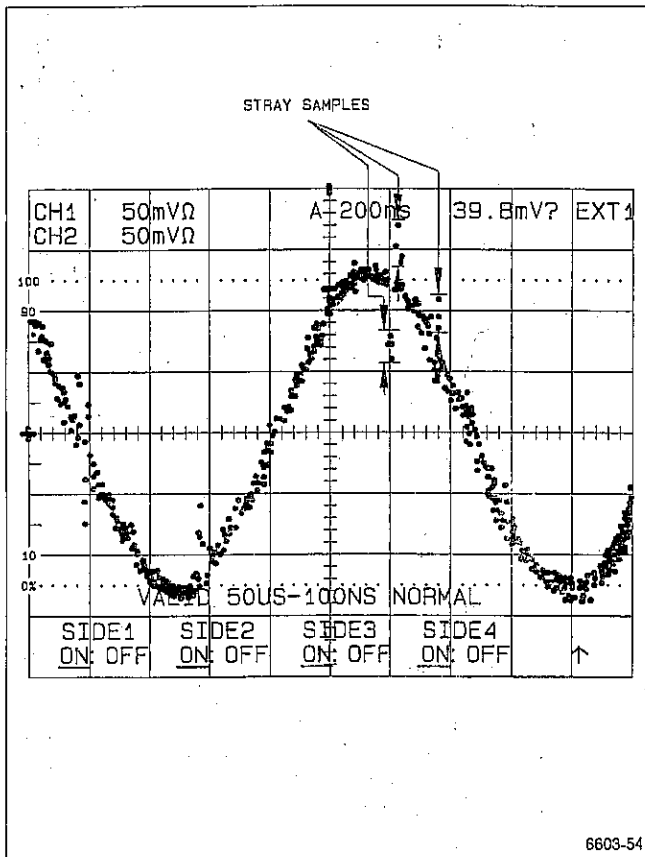

Figure 5-8. CH 1 with L-clocks correctly adjusted, but with stray samples.
1. **Coarse adjust the CH 1 A and T clocks:** Vertically position the CH 2 display off screen. Look at Figure 5-8 and note the stray samples labeled there. If the CH 1 display has similar "stray samples"—samples obviously offset from the well-aligned samples—adjust the CH 1 A and T clocks to align these stray samples. Begin with TID and TIS, and if necessary you can adjust A2S. Push A HORIZONTAL MODE after making each adjustment, iterating between making the adjustment and pushing A MODE as was done for the L-clock adjustment.
1. **Coarse adjust the CH 1 A and T clocks:** Vertically position the CH 2 display off screen. Look at Figure 5-8 and note the stray samples labeled there. If the CH 1 display has similar "stray samples"—samples obviously offset from the well-aligned samples—adjust the CH 1 A and T clocks to align these stray samples. Begin with TID and TIS, and if necessary you can adjust A2D and A2S. Push A HORIZONTAL MODE after making each adjustment, iterating between making the adjustment and pushing A MODE as was done for the L-clock adjustment.